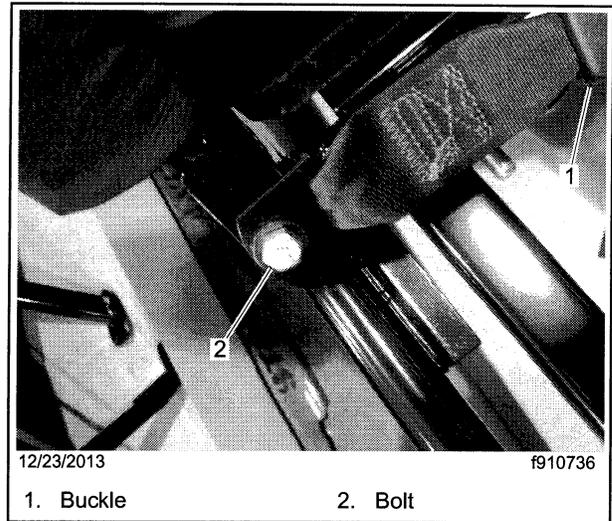

Fig. 9, Webbed Buckle
1. Using a 5/8-inch wrench and a 11/16-inch wrench, remove the buckle mounting bolt. Remove the buckle, nut, and washer. See **Fig. 9**.